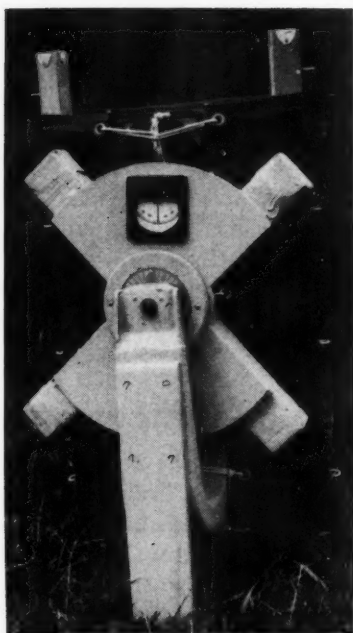

Fig. 1. Pack-sack mounted electromagnetic AFMAG receiver
**Use of Natural Fluctuations of the Earth's Magnetic Field:** Important progress in e.m. prospecting techniques has recently been reported2 by S. H. Ward and associates. In the so-called AFMAG method the conventional e.m. source is eliminated entirely, and instead the natural fluctuations of the earth's magnetic field are used as a source of induction. This puts the method on essentially the same basis in respect to field operations as the ordinary magnetic method—only a receiver is used, which, like a magnetometer, can be operated by one man (see figure 1). Thus delays associated with the co-ordination of the positions and orientations of source and receiver in the conventional e.m. method are avoided. Furthermore, in airborne operations the elimination of the local source may significantly increase the depths at which ore bodies can be discovered. In either ground or airborne operations, favorable frequency bands may be selected from the natural noise-like source field. The development of this method provides another example of the valuable cross fertilization which exists among diverse fields of geophysics. For many years natural magnetic fluctuations have